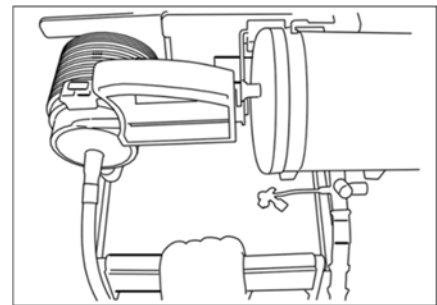

Figure 13
10. Hold the handle for rotation of the exclusive holder (XX*EB04) and unlock the rotation. Then rotate the holder 90 degrees and replace it at the previous position (Figure 13). Put away the handle for rotation depending on the situation.